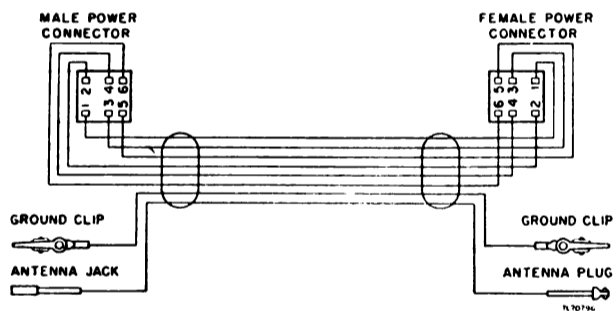

Figure 13. Circuit test table for receiver, of Radio Receiver and Transmitter BC-1306.
c. CABLE CONTINUITY CHECKS. Referring to figures 13, 14 and 15, and case wiring diagram, figure 16, check all cables for continuity, short circuits, and grounds.
*a. PREPARATION.* (1) Connect receiver to power plug, antenna plug, and ground plug by means of circuit test cable. (See fig. 13.)
(2) Connect a 4,000-ohm output meter to a phone plug and insert it into one of the PHONE jacks; plug the headset into the other PHONE jack.
(3) Supply power to the set with Battery BA-48 by inserting the male plug of Cord CD-1119 into the receptacle on the battery and the female plug of Cord CD-1119 into the battery receptacle 145 on the transmitter, screwing the retaining ring up tight.